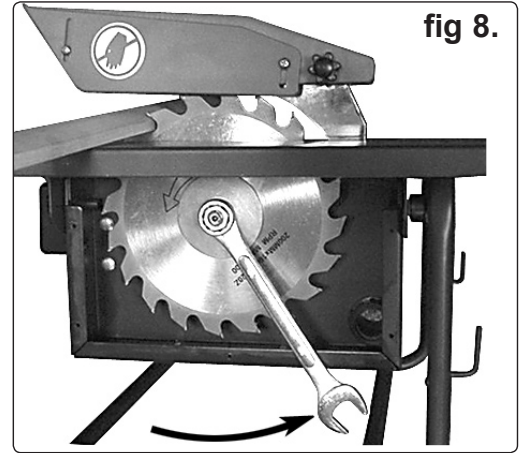

fig 8.
6.3.2 Place a piece of wood onto the front of the table and slide it under one of the blade teeth as shown in fig.8. Place a spanner onto the retaining nut and loosen it in an anticlockwise direction. Remove the nut and the outer flange.